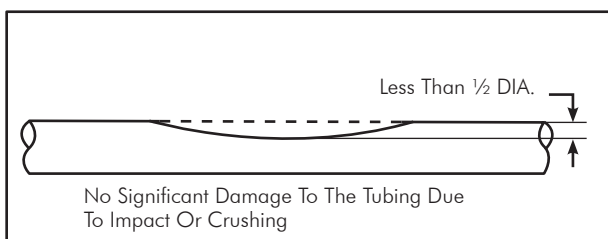

FIG. 5-2 Repair Is Not Necessary
- No repairs or replacement of the tubing is necessary if the tubing is only slightly dented by crushing as indicated in **FIG. 5-2**.